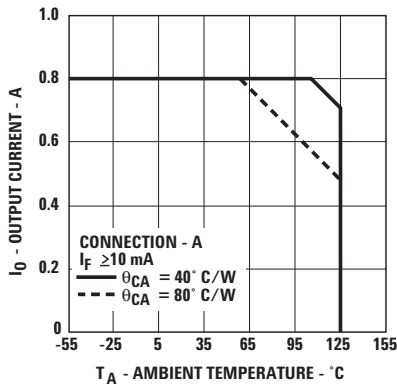
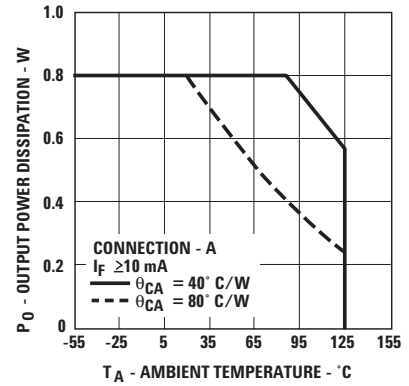

Figure 2. Maximum Average Output Current Rating vs. Ambient Temperature.
Figure 4. Output Power Rating vs. Ambient Temperature.
- For rating, see Figure 4. The output power P_O rating curve is obtained when the part is handling the maximum average output current I_O as shown in Figure 2.
IN ORDER TO DETERMINE V_{OUT} CORRECTLY, THE CASE TO AMBIENT THERMAL IMPEDANCE MUST BE MEASURED FOR THE BURN-IN BOARDS TO BE USED. THEN, KNOWING θ_{CA} , DETERMINE THE CORRECT OUTPUT CURRENT PER FIGURES 2 AND 4 TO INSURE THAT THE DEVICE MEETS THE DERATING REQUIREMENTS AS SHOWN.
The output on-resistance, R_{ON} , specified in this data sheet, is the resistance measured across the output contact when a pulsed current signal ($I_O = 800 \text{ mA}$) is applied to the output pins. The use of a pulsed signal ($\leq 30 \text{ ms}$) implies that each junction temperature is equal to the ambient and case temperatures. The steady-state resistance, R_{SS} , on the other hand, is the value of the resistance measured across the output contact when a DC current signal is applied to the output pins for a duration sufficient to reach thermal equilibrium. R_{SS} includes the effects of the temperature rise of each element in the thermal model. Rating curves are shown in Figures 2 and 4. Figure 2 specifies the maximum average output current allowable for a given ambient temperature. Figure 4 specifies the output power dissipation allowable for a given ambient temperature. Above 55°C (for $\theta_{CA} = 80^{\circ}\text{C}/\text{W}$) and 107°C (for $\theta_{CA} = 40^{\circ}\text{C}/\text{W}$), the maximum allowable output current and power dissipation are related by the expression $R_{SS} = P_{O(max)} / (I_{O(max)})^2$ from which R_{SS} can be calculated. Staying within the safe area assures that the steady-state junction temperatures remain less than 150°C . As an example, for $T_A = 95^{\circ}\text{C}$ and $\theta_{CA} = 80^{\circ}\text{C}/\text{W}$, Figure 2 shows that the output current should be limited to less than 610 mA . A check with Figure 4 shows that the output power dissipation at $T_A = 95^{\circ}\text{C}$ and $I_O = 610 \text{ mA}$, will be limited to less than 0.35 W . This yields an R_{SS} of 0.94Ω .